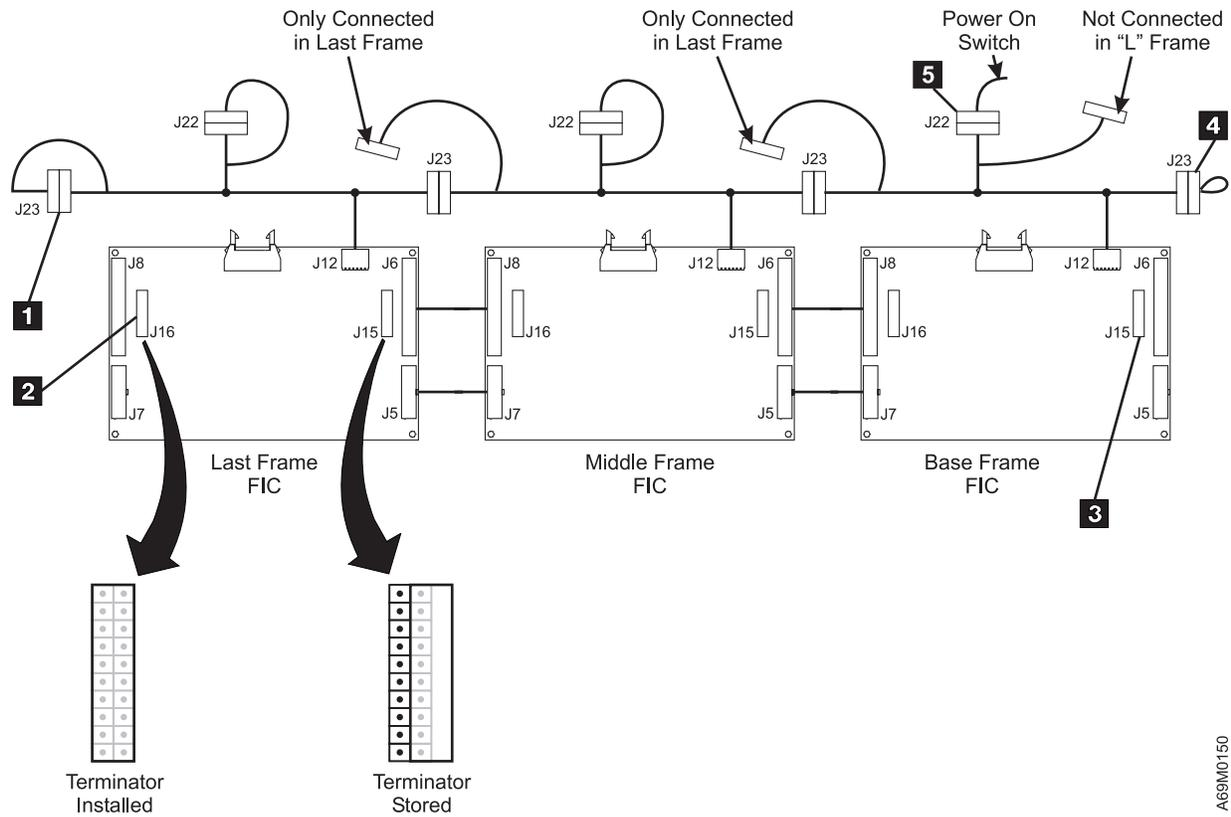

Figure 43. FIC Card Interface Cables Schematic. Three-Frame Example
- ___ 67. Refer to Figure 43 on page 103.
- ___ 73. Refer to Figure 43 on page 103. Connect interframe EPO cable connectors P23 on the previous frame.